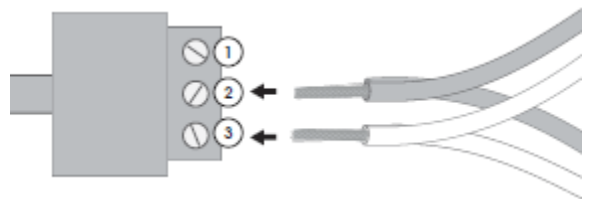

Figure 10
3. For (+) push buttons: Twist the same color wires together from two of the push buttons (copper to copper, silver to silver). Insert the twisted wires into ports 2 and 3 on one data connector. Tighten screws to secure wires (Figure 10)
4. For (-) push button: Use the wire from one remaining push button. Insert the wires into ports 2 and 3 on the second data connector. Tighten screws to secure the wires (Figure 10)